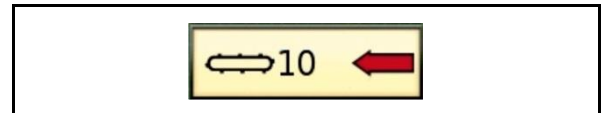
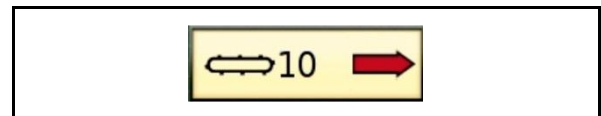

Fig. 142
Fig. 143
2. Press the rocker switch (1) down on the left-hand or right-hand side.
- The crossover conveyor starts to run to the left or to the right. At the same time, the symbol "Crossover conveyor ccw rotation" (Fig. 142) or "Crossover conveyor cw rotation" (Fig. 143) appears in the terminal.